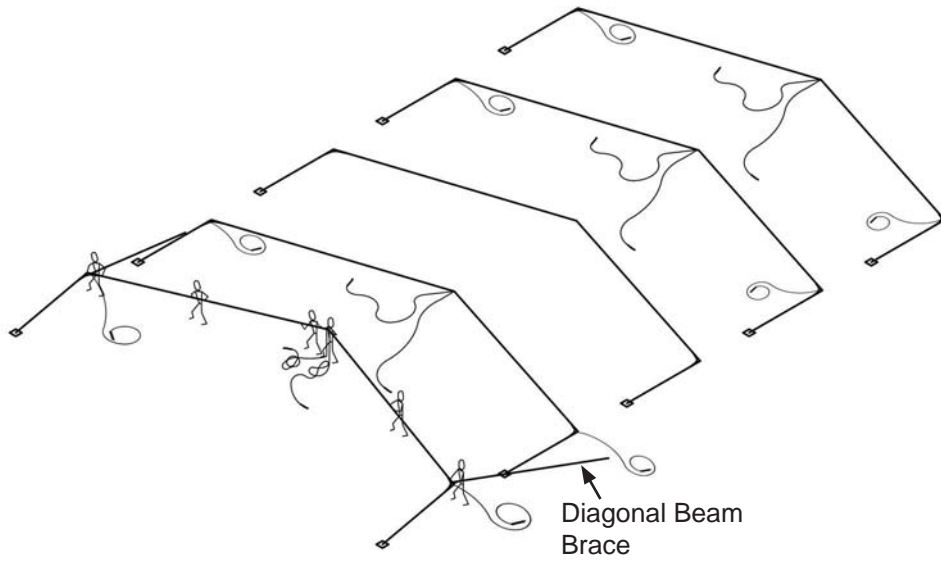

Figure 3.2b
3.2 Raising the End Arch (First Arch): Position three installers along the length of each rafter; one next to the ridge, one at midpoint of rafter and one at the eave as shown in Figure 3.2b. This method of raising the arches requires coordination between workers for a safe installation. Use proper lifting techniques to protect the back by lifting with your legs.